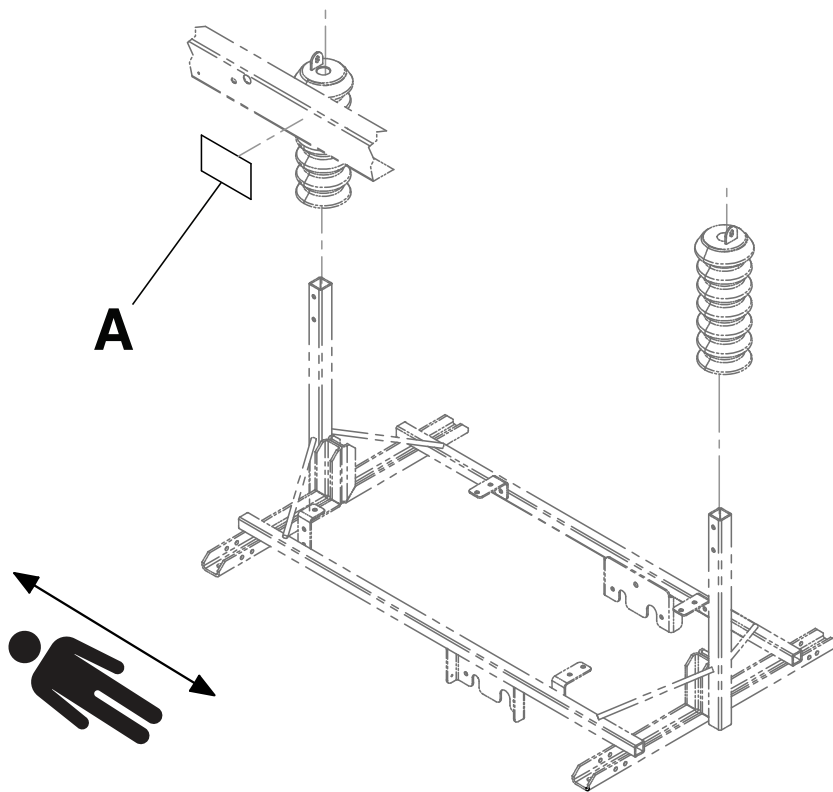

Figure 2 – Serial number location
You can find the serial number (A) on the right foot end of the litter frame (Figure 2).